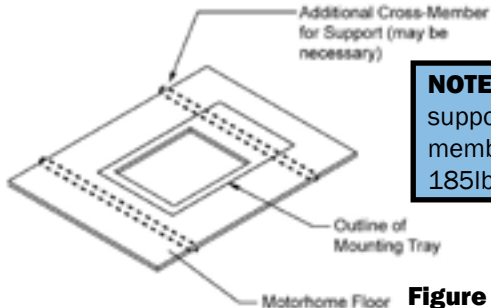

Figure 9
3. Install the mounting tray flange into the cut out opening. Reference Figure 9.